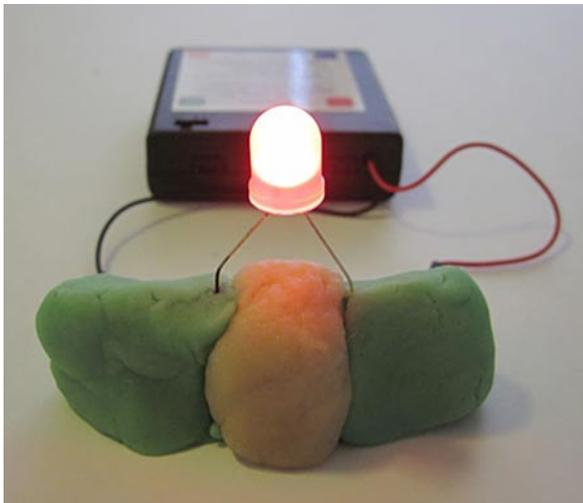

Figure 5. Your first squishy circuit should look like this.
6. Congratulations! You have made your first squishy circuit. It should look similar to the one in Figure 5.